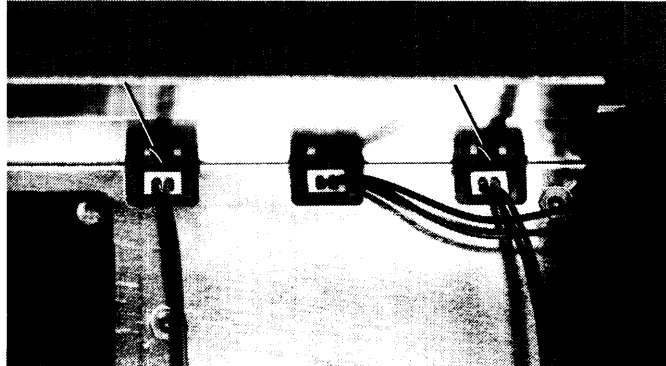

Figure 2-5. Fan Wire Connectors
1. Using needlenose pliers, disconnect the fan wire connector from its pins on the fan housing. Refer to Figure 2-5.